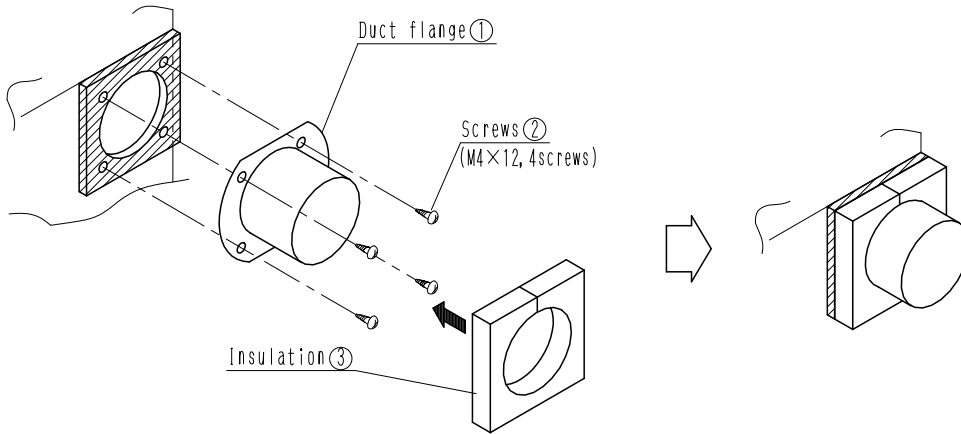

Fig. 3
3. Install the duct flange ① with screws ② (M4×12, 4 screws) to the opening and adhere the insulation ③ (Fig. 3)